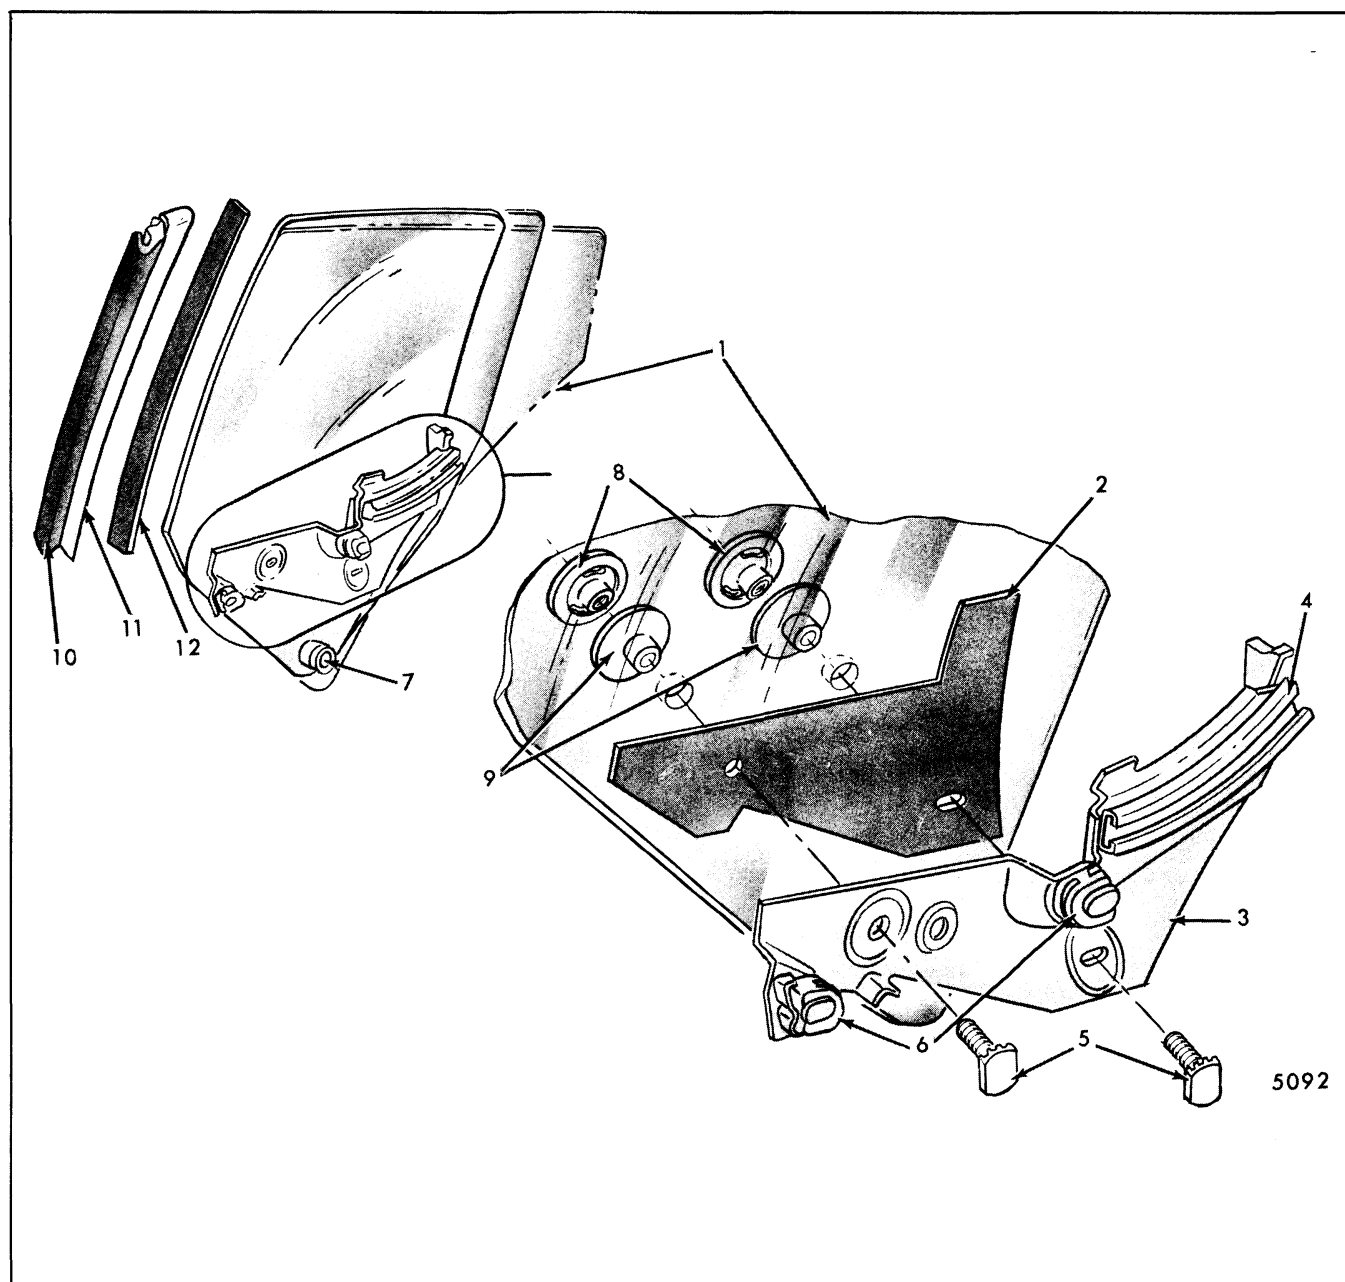

Fig. 6-29-Rear Quarter Window Assembly - "B, C and E" Styles
Figure 6-29 is a typical exploded view of "B, C and E" style window assembly and identifies the various components and their assembly sequence.
**NOTE:** When installing glass to sash channel bolts, or nylon roller nuts, torque to 72 inch pounds (6 foot pounds). When replacing window assembly, install new glass spacers ("9", Fig. 6-29).